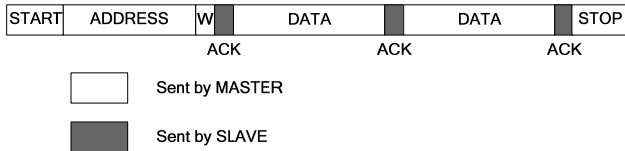

Figure 6. Data Transfer from Master to Slave
W and then waits for an acknowledge bit (A) from the slave which the slave will only generate if its internal set address matches the value sent by the master (see Figure 6). If this